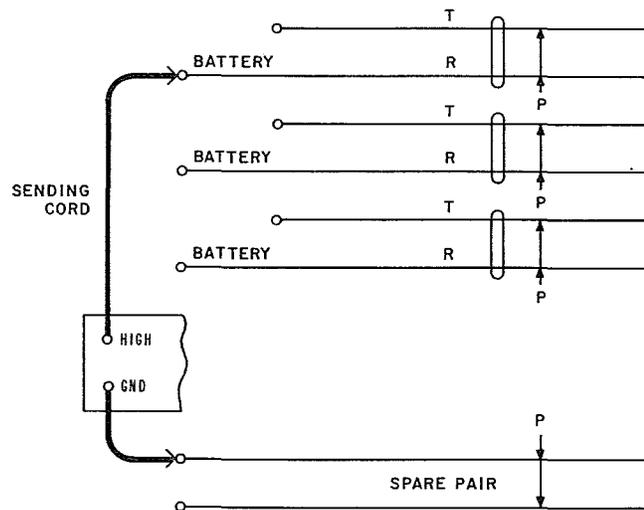

Fig. 3—Tone Source Connection at Splice
- (b) At the splice, connect the tone source (76-type test set) between the selected spare conductor and one of the battery conductors, as shown in Fig. 3. Make the connections to the HIGH and GND posts.